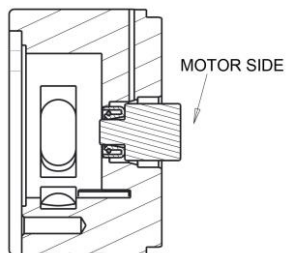

Figure 3
5. Install the new seal. An arbor press or bench vise is preferred for pressing the seal squarely into bore. Ensure that the seal (**Figure 3**) bottoms out on the pump housing. Lubricate the seal lip with grease or oil to reduce friction on the motor shaft contact surfaces.